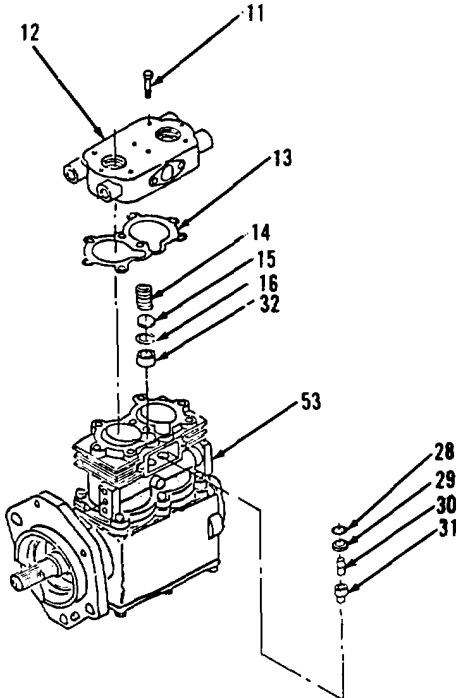
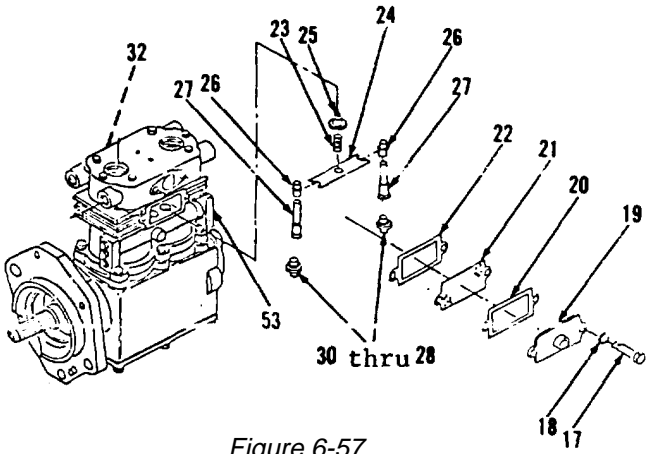

Figure 6-56.
Figure 6-57.
24. Install two seats (32), guides (16) and valve discs (15, Figure 6-56).
25. Install two bushings (31) in unloader bore block.
26. Lubricate and install two new grommets (29) and two new rings (28) on pistons (30).
27. Lubricate two pistons (30) and bore in block (53).
28. Install two new springs (14) in cylinder head (12). Use small quantity of petroleum jelly to hold two springs (14) in place in cylinder head (12) so they will not fall out.
29. Position new gasket (13) and cylinder head (12) on block (53) with two springs (14) positioned over two valve discs (15) in block (53).
30. Install eight bolts (11).
31. Install items 30 thru 28 as an assembly (Figure 6-57).
32. Install two plungers (27) and guides (26). Slip two plungers (27) in top of two pistons (30).